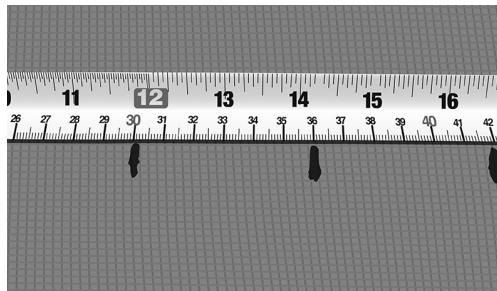

Fig. 8. Mark CC distance on the floor
6. Mark the calculated CC distance on the floor surface (Fig. 8).